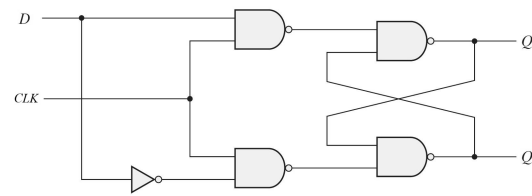

Fig.2: D Latch
1. Realize the **D Flip Flop** in Fig.2 using your **SSI Library**. Connect the ports, **CLK, D, Q, Qn** to **BTN, SW0, LED1, LED0**, respectively. ✓